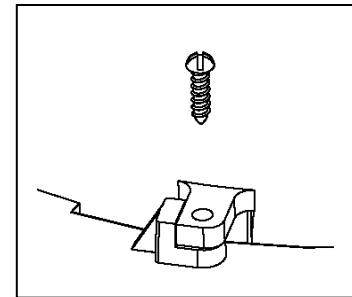

Fig. 5
1. Turn the Floating Pump and Filter assembly upside down. Remove the locking screw. Fig. 5